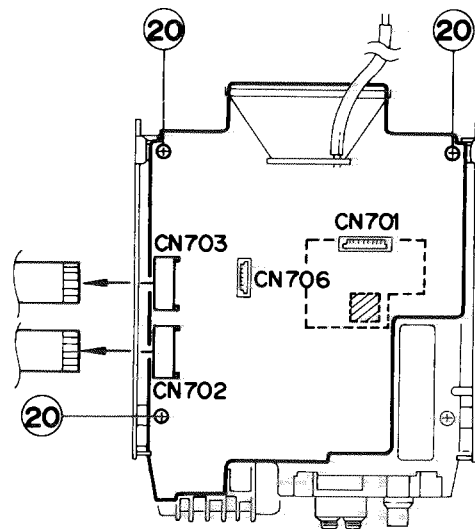

Fig. 7 – 15
■ Tuner P.C. board (Fig. 7 – 16)
1. Remove the two screws (14) retaining the tuner P.C. board from the chassis.